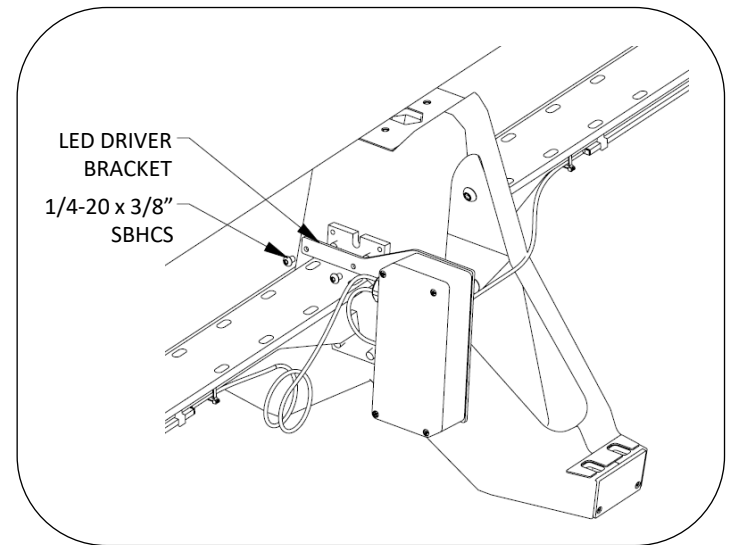
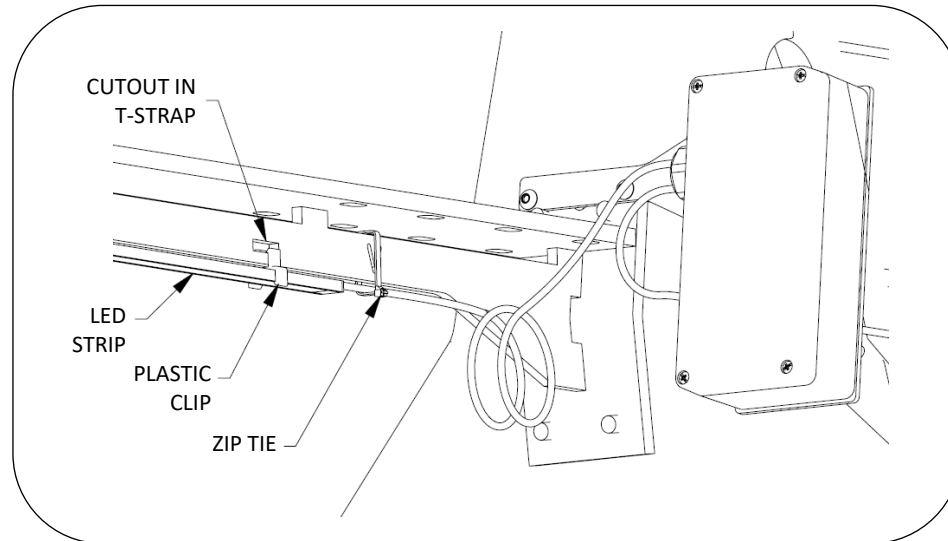
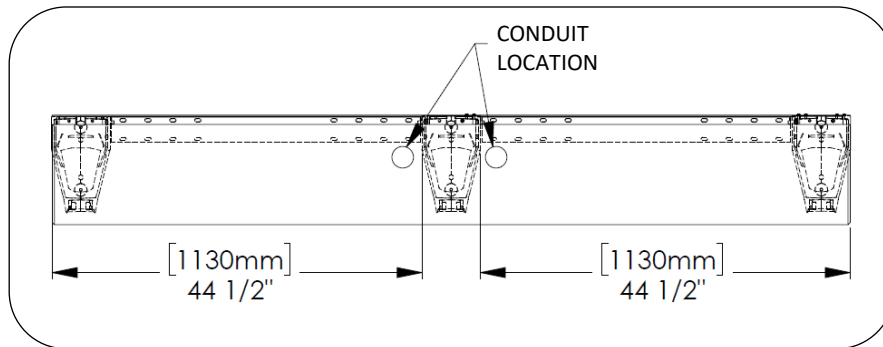

Fig. 7
Fig. 8
Fig. 15
13. For light kit, install bracket onto support. Attach driver plate to bracket, see Fig. 7. Attach plastic clips to T-straps to secure LED light strips, see Fig. 8. Connect wiring to line-in wires. Each bench segment requires its own light kit and line-in voltage. Refer to Fig. 15 for recommended conduit locations